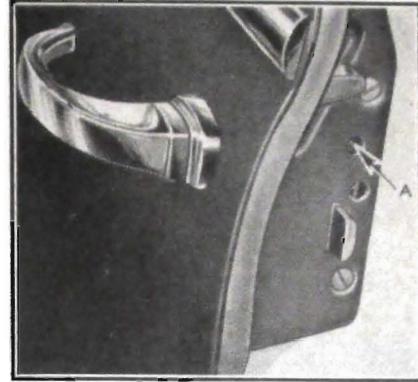

Fig. 1-63. Outside Door Handle Removal
1. Remove retaining screw "A", Fig. 1-63, through small hole in door facing near lock bolt.